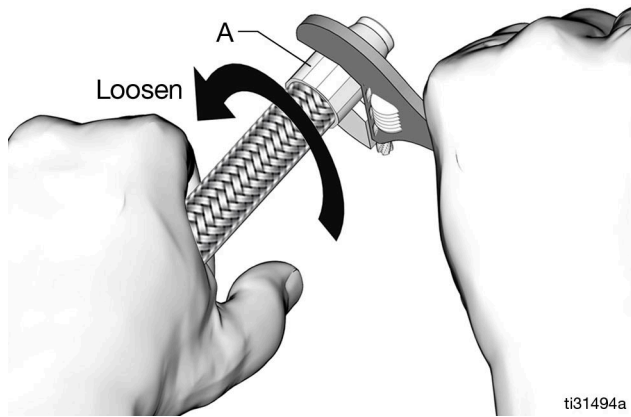

FIG. 66
5. Use a wrench to finish tightening the socket (a) until it bottoms out. Then back off 1/4 turn to 1/2 turn (FIG. 66).